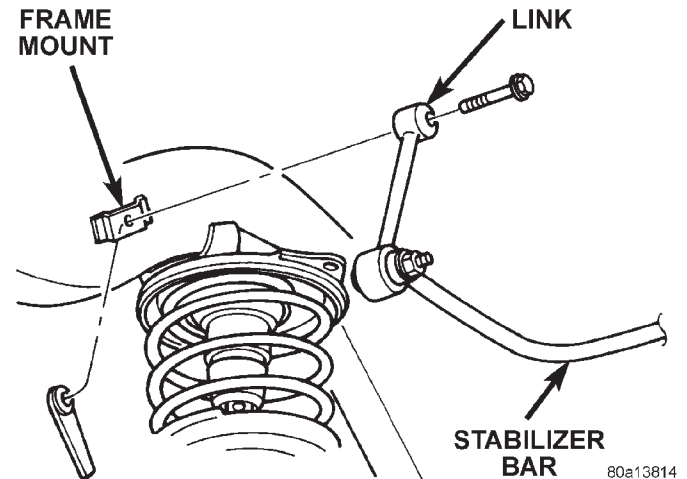
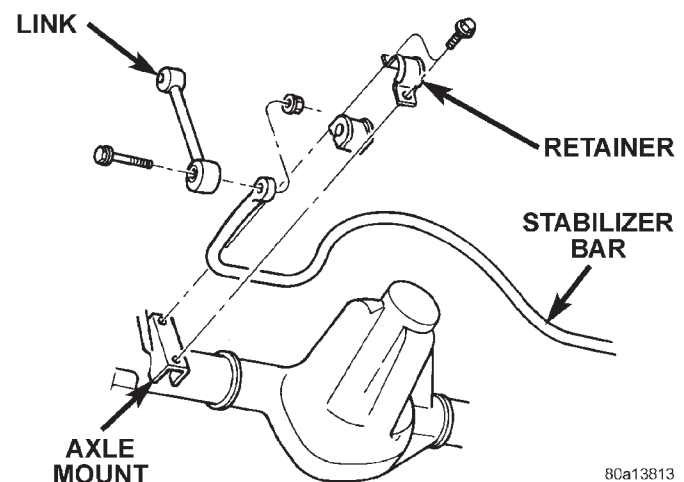

Fig. 5 Stabilizer Bar Link
Fig. 6 Stabilizer Bar
- (1) Raise and support the vehicle.
- (2) Remove the stabilizer bar link bolts from the frame mounts (Fig. 5).
- (3) Remove the link bolts from the stabilizer bar.
- (4) Remove the stabilizer bar retainer bolts and retainers from the axle mounts (Fig. 6) and remove the bar.
NOTE: Ensure the bar is centered with equal spacing on both sides and is positioned above the differential housing (Fig. 6).